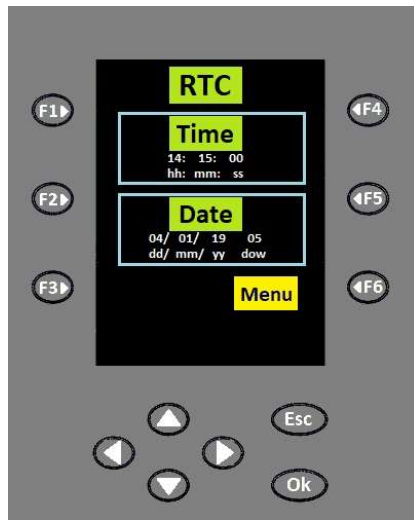

Figure 23 - RTC (Clock)
- As shown in **figure 23**, **RTC** (Real Time Clock), **Time** (hh:hour / mm:minute / ss:second) and **Date** (dd:day / mm:month / yy:year / dow:day of week) are read from the color LCD display.